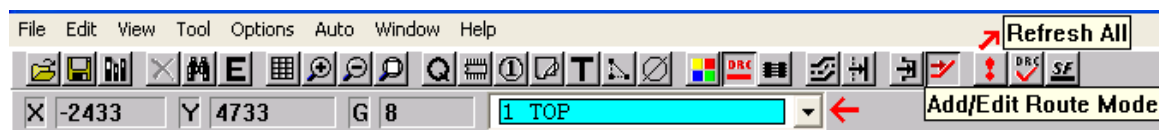

Figure 5.3: Routing/Layout Tools
During the board layout and routing process, we will use several new icons from the toolbar (**See Figure 5.3**). The pulldown menu showing 1-Top in Figure 5.3 allows you to select the active board layer. We will be using layers Top and Bottom. When a board is first generated, components are connected by a mess of straight yellow wires. These yellow wires depict the connections made in the schematic, and they appear in unrouted, “ratsnest” form. You will use the **Add/Edit Route Mode** icon to route each of the wire connections between pins. As you move components and route the board, the **Refresh All** icon is used to recalculate the yellow ratsnest connections to give the shortest paths between pins.
4. Click → **Options | System Settings** (**See Figure 5.3**)